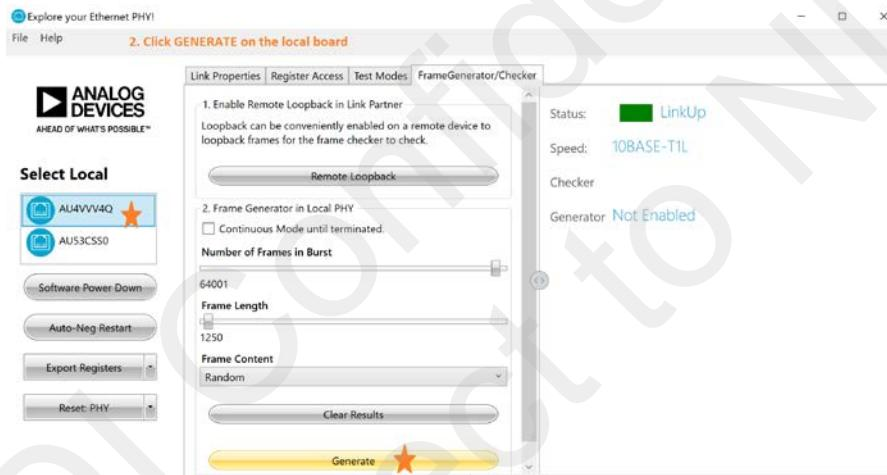

Figure 36. Frame Generator with Remote Loopback enabled – step2
2. Enable the Frame Generator on the local board (see Figure 36) by clicking **Generate**.